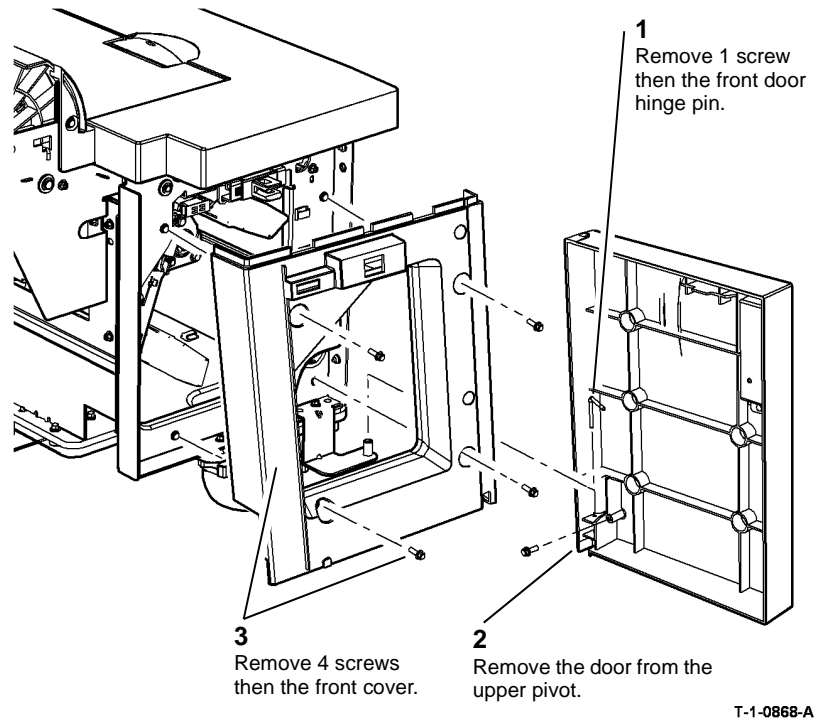

Figure 1 Tri-folder front door and cover
1. Remove the front door then the front cover, Figure 1.